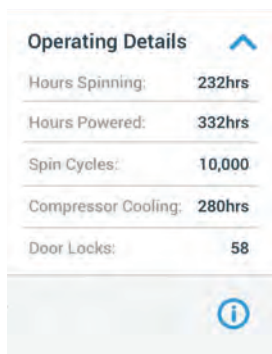

Figure 3-35: Status – Alarm Screen: Operating Details Expanded
3. To view background information about the centrifuge and rotor, tap the field header to expand the “Operating Details” (see Figure 3-35), “Rotor-Centrifuge Lifecycle”, “Rotor Log”, or “Imbalance Alarms” field.